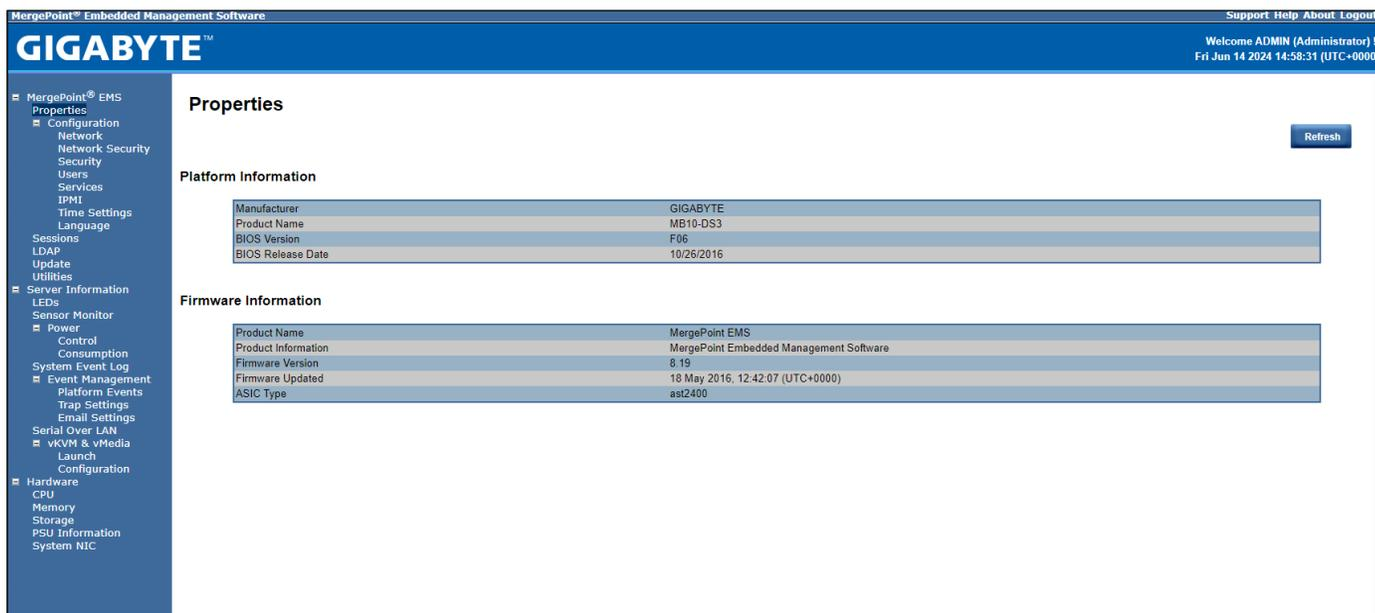

Figure 6-9: IPMI Web Page
12. The web page shown in Figure 6-9 should appear.